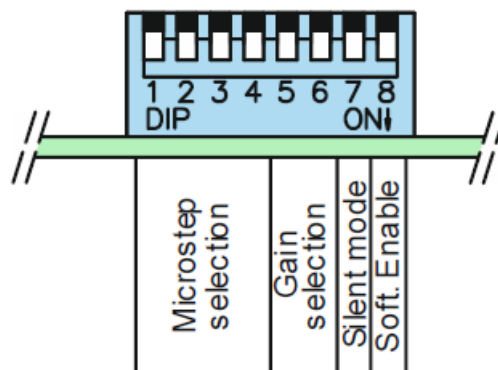

Figure 6.1 DIP switches function description
The setting of the operating parameters of the microstep drive MST-109 is done using an 8-position DIP switch. It is set using a DIP switch (Figure 6.1):
DIP switches in positions 1, 2, 3 and 4 (Figure 6.1) provide the choosing of 16 different microsteps option (Table 6.1). Choice of binary and decimally microstep values is possible.
Gain is a suggestion to the built-in stepper drive current regulator for the desired mode of operation (more or less aggressive). It is possible to choose 4 different levels of amplification. DIP switches in positions 5 and 6 are used for that purpose (Figure 6.1). The choice of gain depends on the inductance of the stepper motor. Table 6.2 gives possible gain choices. The stepper motor coil inductance value can be found in the technical documentation that comes with the stepper motor.
The microstep drive MST-109 provides the option of silent operation when the stepper motor do not rotate. The selection is made using the DIP switch in position 7. When the DIP switch 7 is “down” (↓), i.e.. is “one” (1) (Figure 6.1), then the Silent mode of operation is active. Otherwise, it is inactive.
The DIP switch in position 8 (Figure 6.1) provides the possibility of choosing two Enable modes of operation